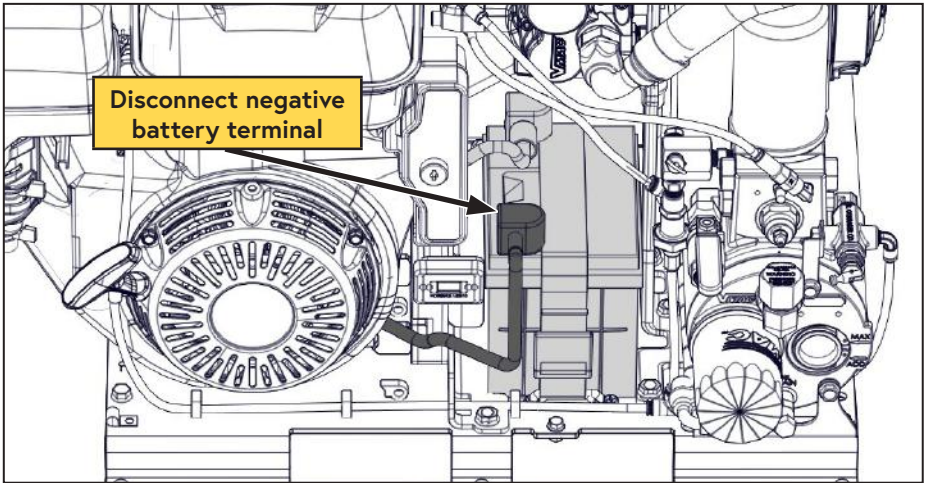

Figure 28 — Negative battery terminal
- ☐ Disconnect the negative battery terminal (Figure 28).